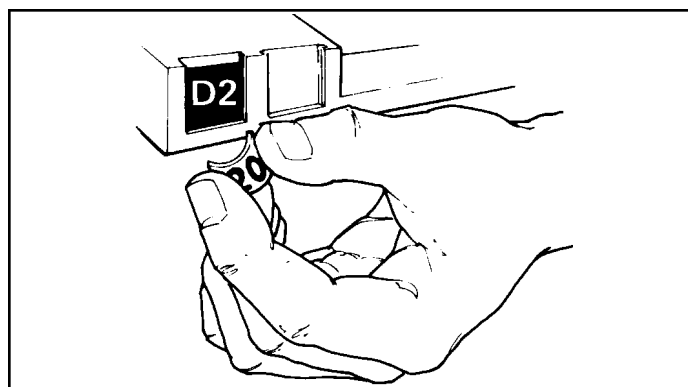

Figure 9. INSTALLING PRICE TABS
13. INSTALL PROPER PRICE TABS into price tab holder for each selection in the main product area.(See Figure 9.)